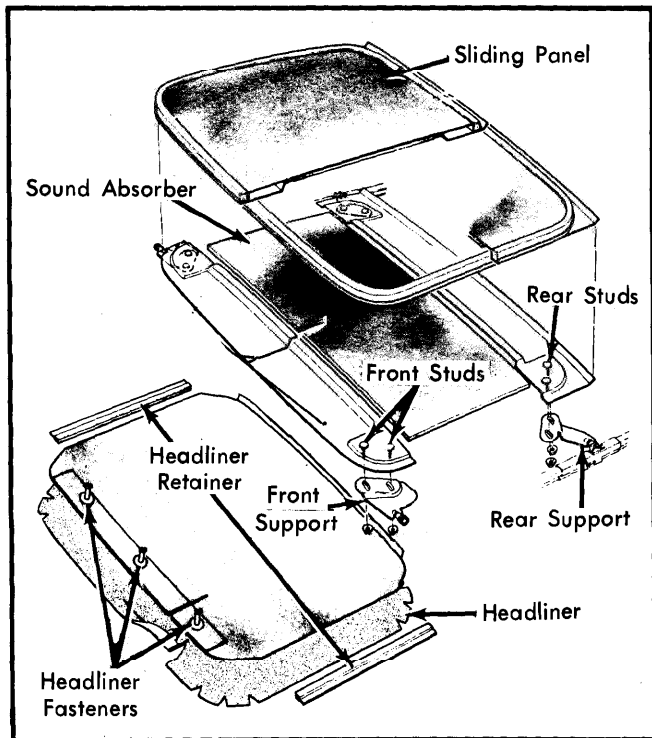

Fig. 2 Metal Sun Roof Panel Assembly
2) Using the same procedure but with adjustment tool 3" in front of screws, adjust guide rail at rear corners. If height adjustment is not enough, shim washers may be added between panel and cable support. See Fig. 2 and 3.